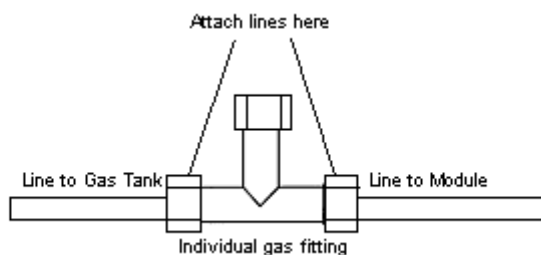

Figure 60. Connecting Gas Lines
- 2 Attach the individual gas fitting between the line to the gas tank and the line to the module (Figure 60).